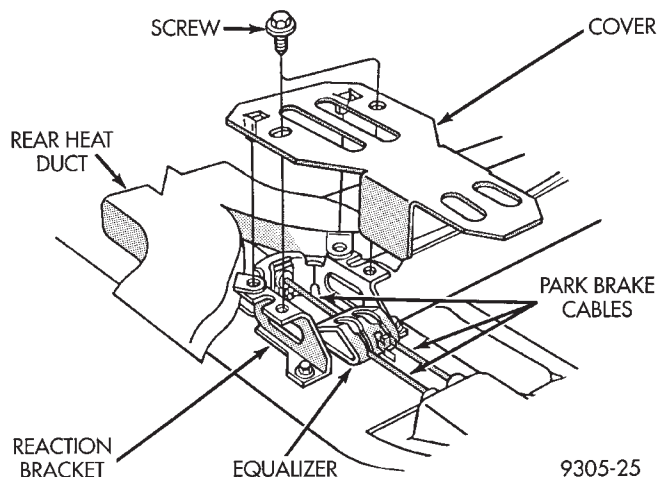

Fig. 11 Park Brake Equalizer And Cover
(12) Install equalizer cover back on reaction bracket (Fig. 11). Torque equalizer cover to reaction bracket mounting bolts to 10 N•m (88 in. lbs.).